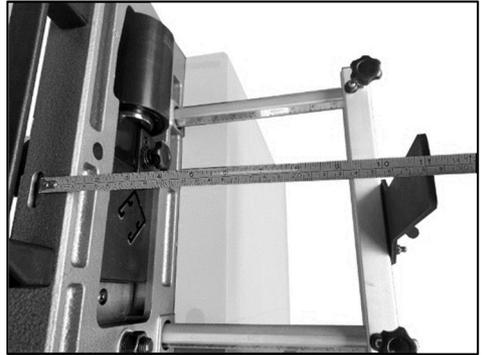

Figure 5
5. If workpiece is longer than maximum travel of scale rod, use 1-in. O.D. pipe or tube of greater length (not provided) and move stock stop farther from cutting blade. Determine distance by placing a measuring tape from the recess atop the head, to the inner edge of stock stop, as shown in Figure 5.